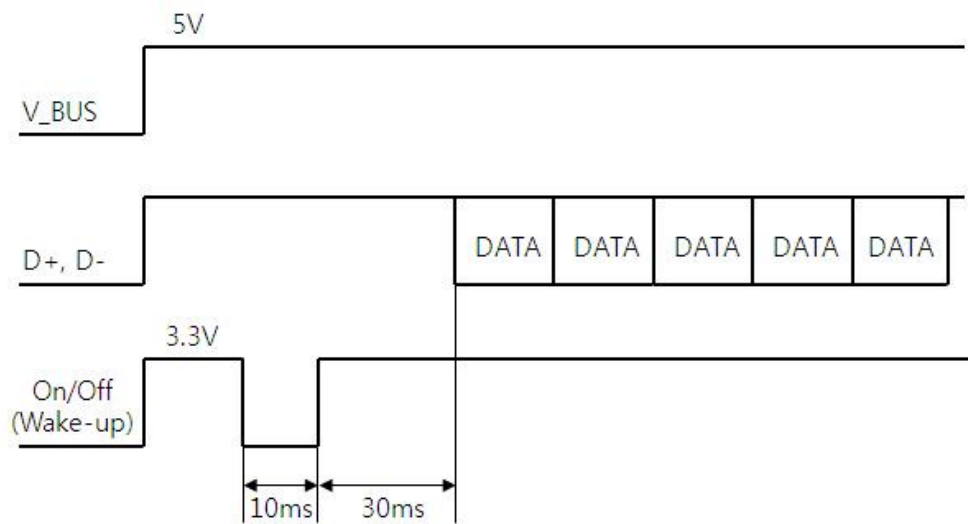

Figure 5: Input/Output to/from USB connector pins
2. Apply wake-up signal to USB connector's pin 5 as shown in Figure 5